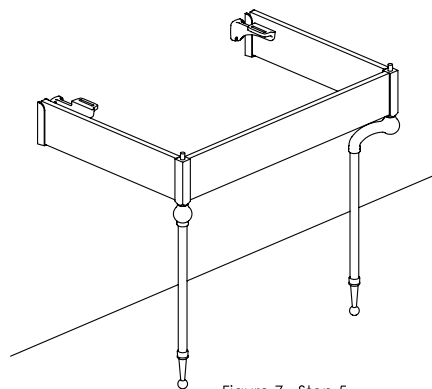

Figure 7 - Step 5
Step 5: Install the skirts, legs, wing nuts brackets and hex nuts in the backs of the legs to hold the marble skirts, making sure the assembly is level. See Figure 7 & 8.